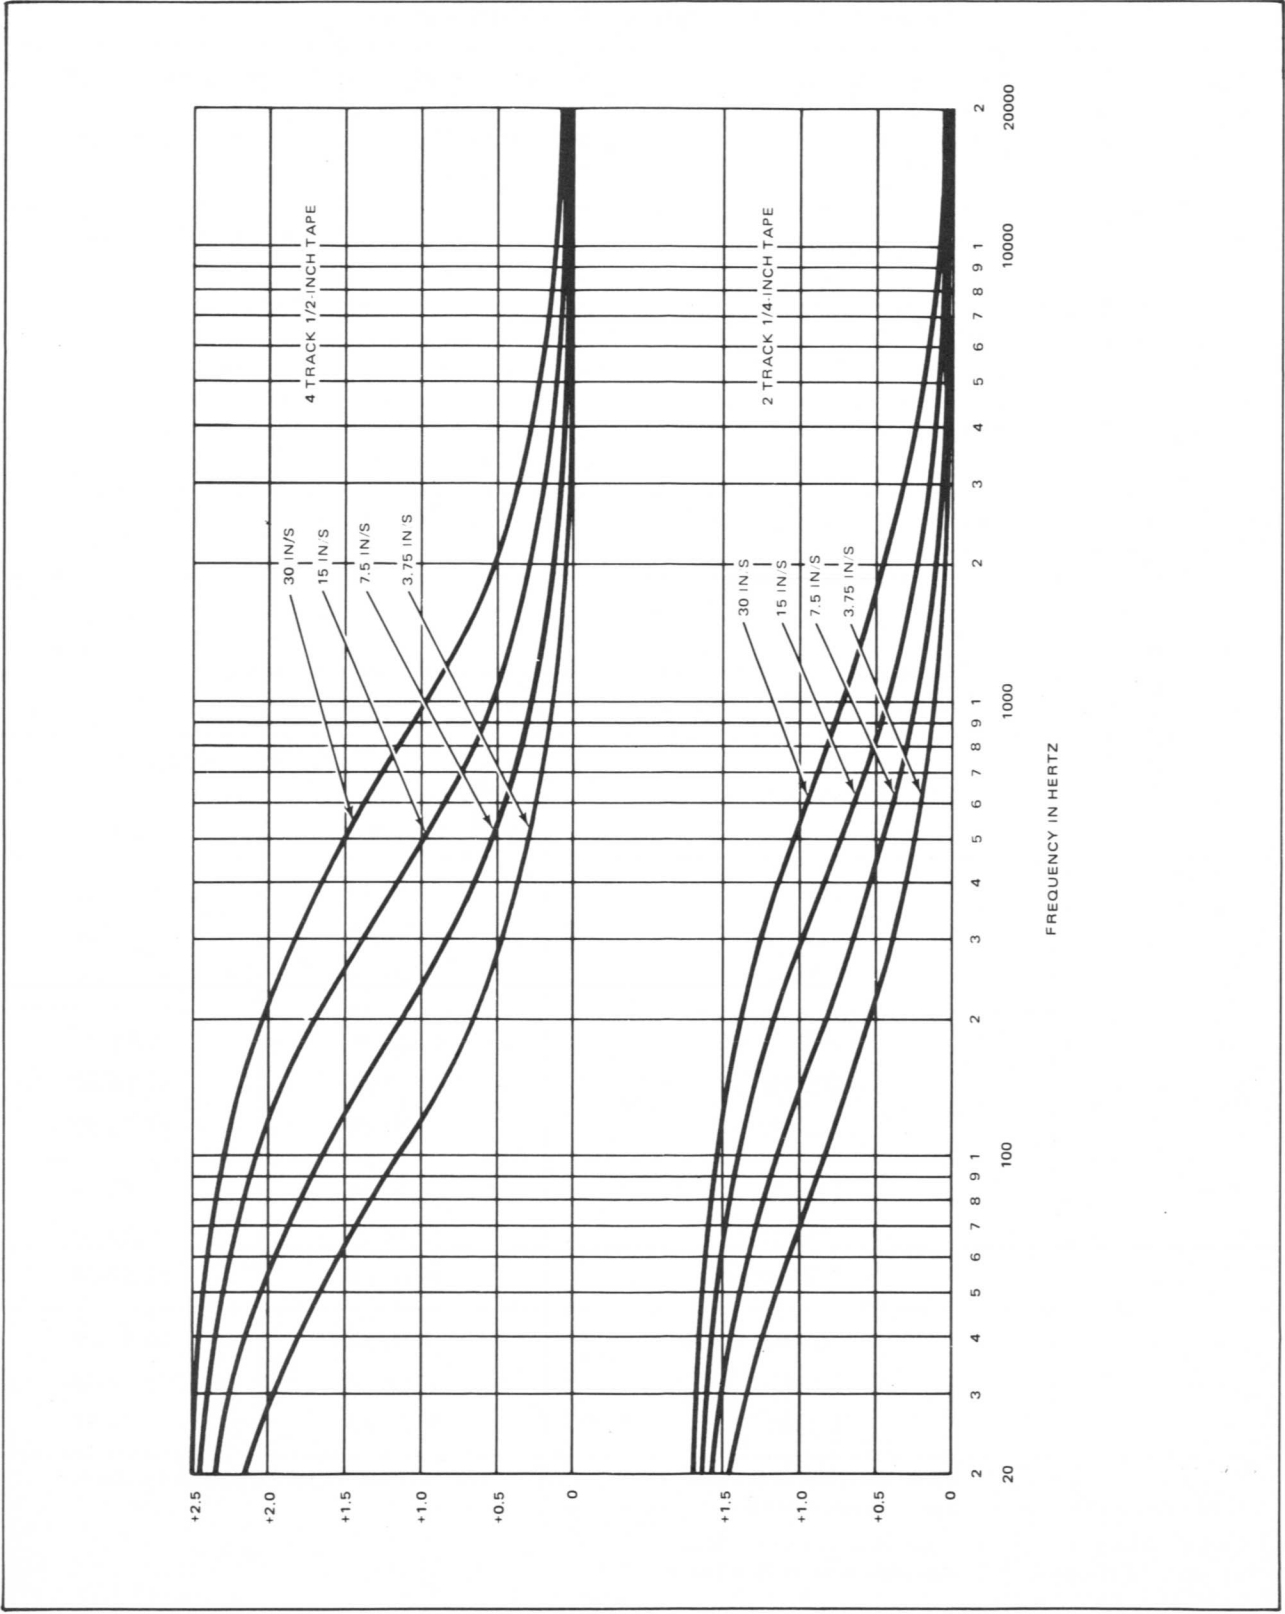

Figure 5-8. Relative Fringing Frequency Response Due to Fringing Effect
Therefore, if the equalization is correctly adjusted, the reproduce response when using a full-track alignment tape on either a 2-track, 1/4-inch tape system or a 4-track, 1/2-inch tape system should conform to the relative curves shown in Figure 5-8 within the tolerances given in Table 5-3. The curves given in Figure 5-8 display the *relative* fringing frequency response and *do not* include the fixed error due to the wider reproduce core width (as compared to the record head width).
NOTE: To the above tolerances, add manufacturing tolerances of the alignment tape and relative fringing frequency response due to fringing effect (Figure 5-8).
*The amplitude correction factors shown in the table are the sum of the values shown in Figure 5-8 for the frequencies shown in the table, and the fixed errors due to wider reproduce core width as follows:
The correction factors in Table 5-4 are the amounts by which the actual measured reproduce output from a full width alignment tape will exceed the reproduce output of the correct track width recorded to the same fluxivity. The table includes the fixed error due to the wider reproduce core width and the relative fringing error (shown in Figure 5-8) for frequencies of 500 Hz, 700 Hz, and 1.0 kHz. For example, when reproducing the 700-Hz, 185-nWb/m tone on an Ampex 15 in/s full-width alignment tape on a 2-track, 1/4-inch tape system, the output (as read on an ac voltmeter) will be +1.14 dB higher (Table 5-4) as compared to reproducing an alignment tape that has the same track format as the recorder/reproducer.
0.58 dB	— relative fringing frequency response due to fringing error effect at 700 Hz and 15 in/s (Figure 5-8).